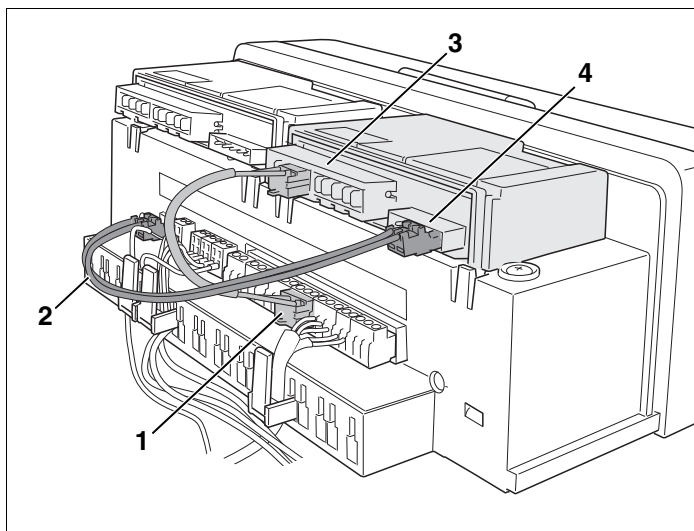

Fig. 7 Electrical connections
- Carefully take the main power cable and bus cable (Fig. 7, **Item 1** and **2**) from the boiler's controller and connect them to terminals (Fig. 7, **Item 3** and **4**) on the first function module.
- Carefully connect other components to terminals (Fig. 7, **Item 3** and **4**) on the function module in accordance with the connection diagram.
- Carefully connect the main power cable and bus cable (Fig. 7, **Item 1** and **2**) from the first function module to the terminals on the second function module.